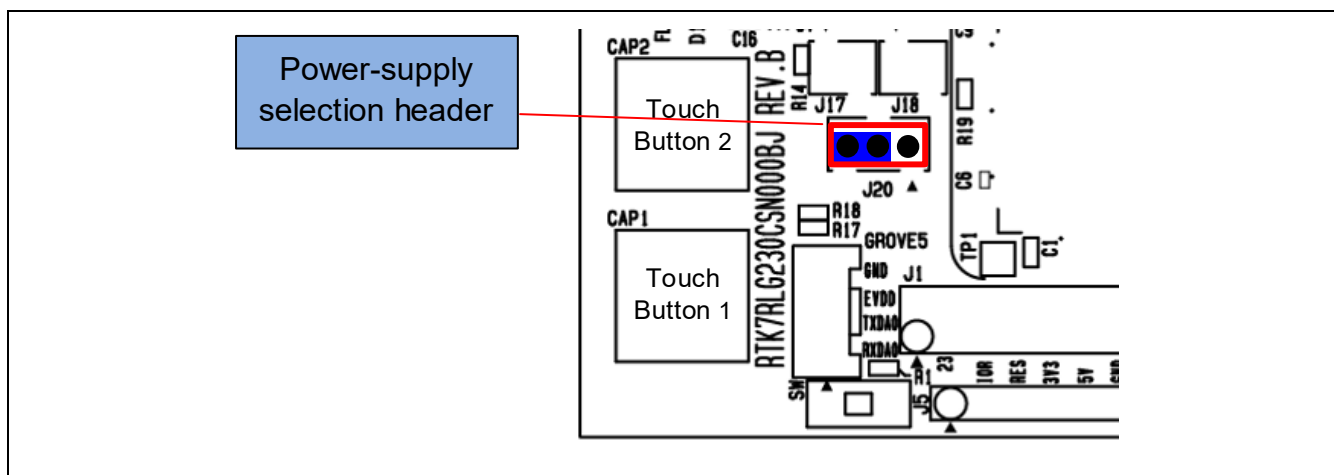

Figure 5-6 Setting of the Header to Select a 3.3-V Power Supply (Top Side)
- 2-3 of J20 being short-circuit selects a 3.3-V power supply (Figure 5-6).